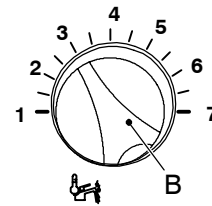

Fig. 9.8
At this step it is possible to visualize the current setting by keeping the reset button C pressed for more than 5 seconds. The lamps will flash a number of times corresponding to the setting (Tab. 9.1 and Fig. 9.8).
- 4 To change the setting turn the knob B on a position corresponding to the desired maximum useful output (Tab. 9.1 and Fig. 9.8). By turning the knob B, the lock-out signal lamp D blinks quickly (2 per seconds) indicating that the setting has changed and must be memorised.